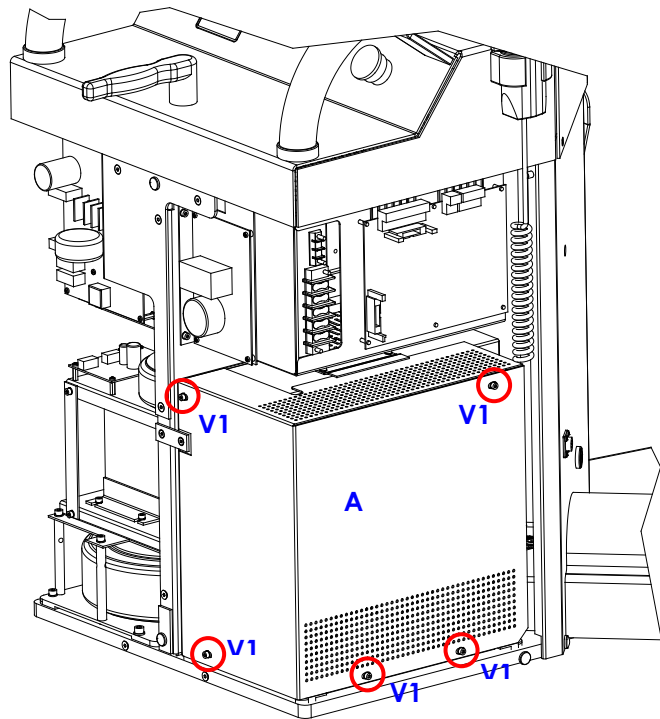

Fig.17
- Remove the cover (A) on the chopper by undoing the 5 screws (V1) shown in Fig.17.